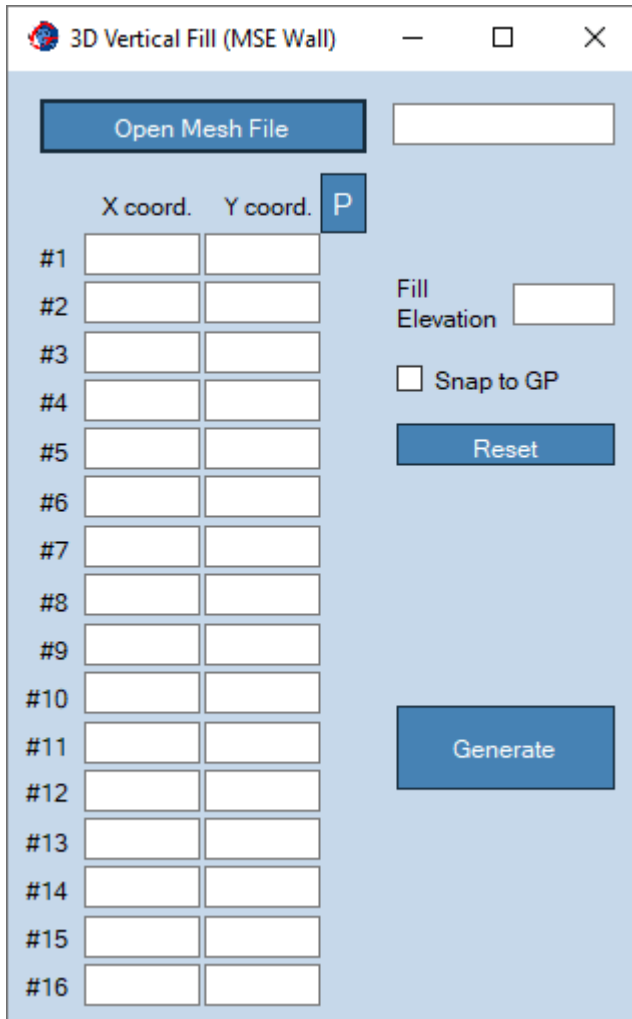

Figure 28: 3D Surfaces Menu – Vertical Fill (MSE Wall).
- **Snap to GP:** This option is useful when coordinates (X,Y) are selected using the mouse. Given the unlikeliness of exactly clicking over a gridpoint (GP) coordinate, activating this option will internally correct the coordinate of the selected point to the closest GP coordinates. This option helps create straight edges of the landform perimeter, aligned with the mesh grid.
- **Meshing Menu, Vertical Fill (MSE Wall):** This option (shown in Figure 28) defines a Vertical Fill (MSE Wall) landform over any given surface.